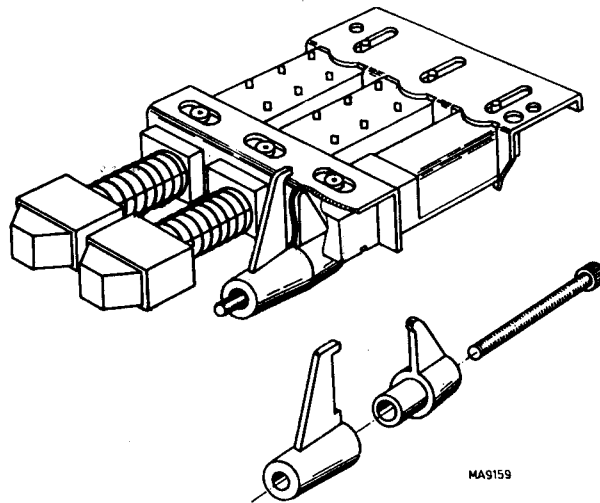

Fig. 3.14. Push-button set clamping device
Each of the push-button sets is fitted to the front panel by means of two clamping devices secured by hexagon screws, see Fig. 3.14.
**Note:** Before a push-button switch is refitted to the front panel, it is advisable to stick the two parts of the clamping device together by means of adhesive tape or non-hardening glue, in order to facilitate replacement, refer to Fig. 3.14.